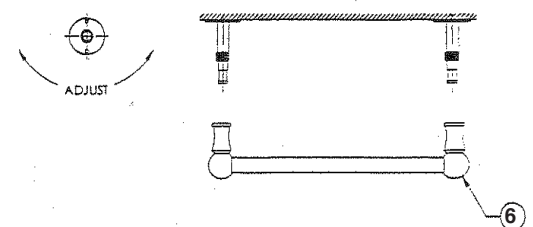

Fig. 5
2. Loosely assemble accessory with accessory post **(6)** onto mounting post. Adjust mounting post as shown and mark location for second mounting screw **(Fig. 5)**.